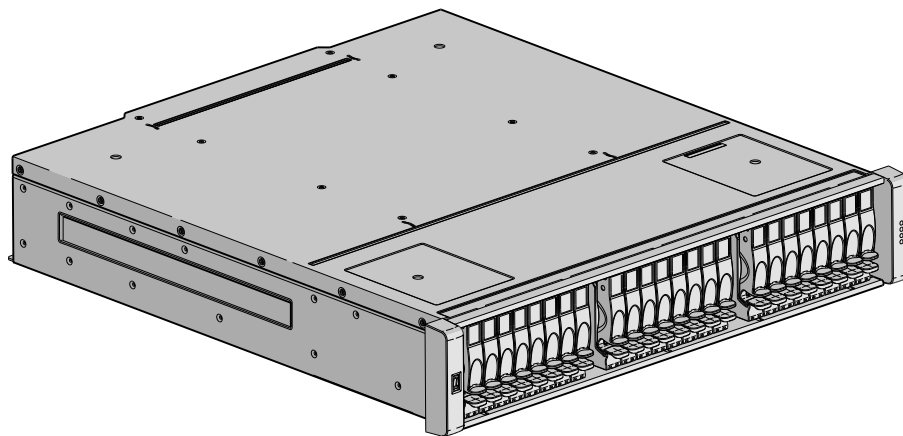

Figure 29 Controller enclosure assembly (2U24)
- Assembly: Figure 29 on page 223